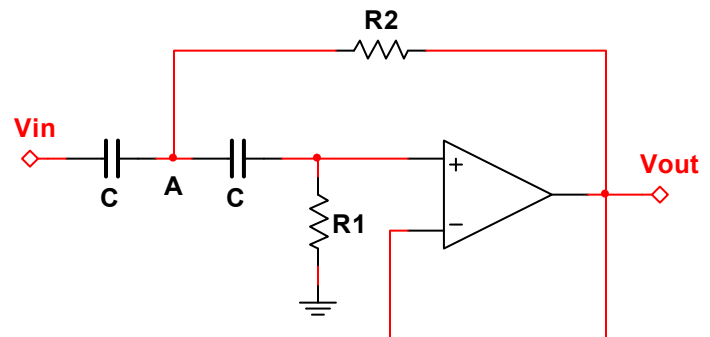

Fig. 2: 2nd order Sallen-and-Key high-pass active filter.
2) Consider the Sallen-and-Key high-pass filter shown in Fig. 2.